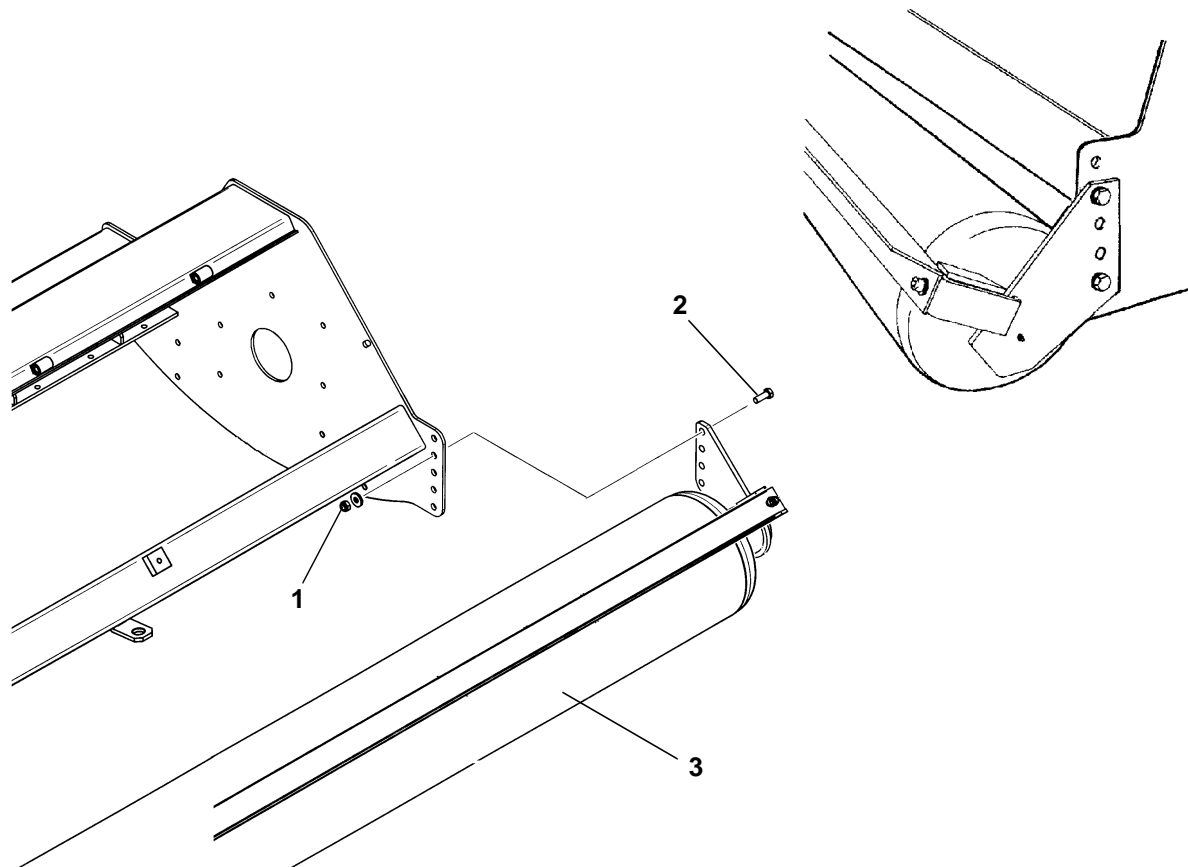

Fig. 9-5 Rullo d'appoggio RMU 2550 - 2900 - 2900 S - 3200 - 3200 DTS - 3200 DTS/96C
9.2.2 Montaggio RMU 2550 - 2900 - 2900 S - 3200 - 3200 DTS - 3200 DTS/96C (Fig. 9-5)
9.2.2 Assembly RMU 2550 - 2900 - 2900 S - 3200 - 3200 DTS - 3200 DTS/96C (Fig. 9-5)